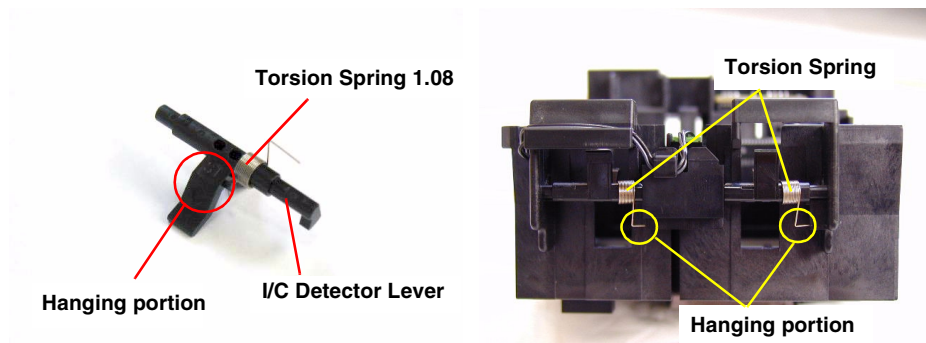

Figure 4-51. Assembling the I/C Detector Lever
- Make sure that the Torsion Spring 1.08 is hung onto the protrusion of the I/C Detector Lever and the hook on the CR frame correctly. Refer to Figure 4-51.